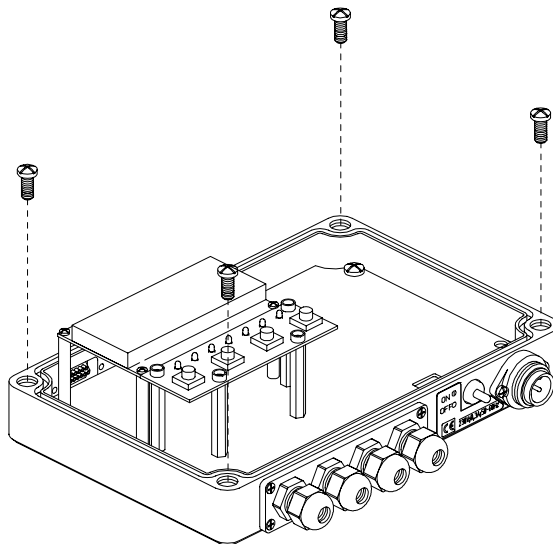

Figure 8 - Mounting MX4000
- 2) Align the device and insert two appropriate screws (M5 x 35 UNI 6107 or M5 x 40) with their washers and then screw them into the panel or the wall until tight (see Figure 8).